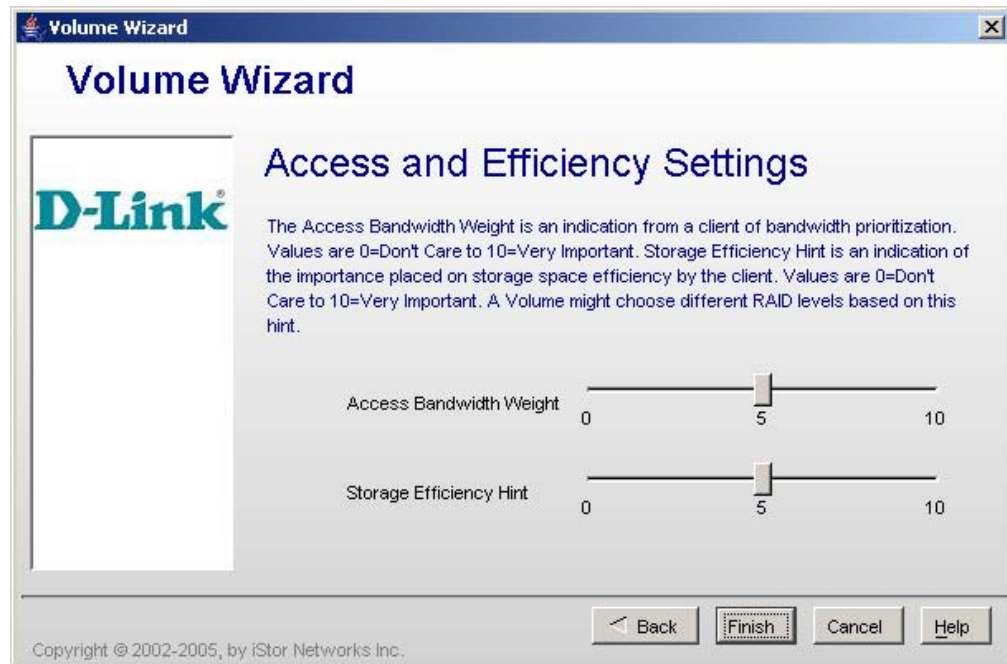

Figure 5-13 Volume Wizard Screen – Access and Efficiency Settings Screen
4. Click the **Next** button. The Access and Efficiency Settings screen appears (see Figure 5-13).